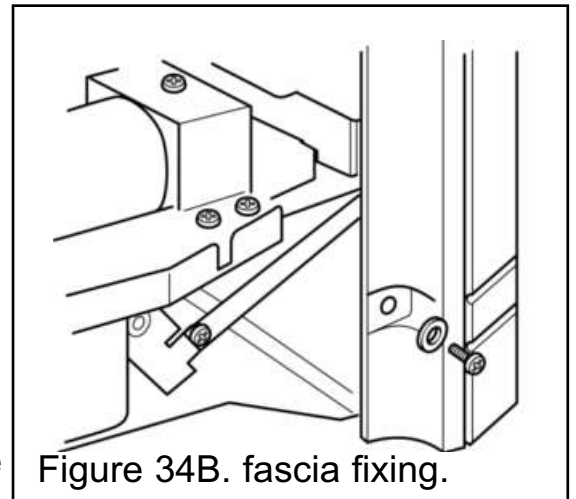

Figure 34B. fascia fixing.
**3.** Secure the bottom of the fascia using the two machine screws and washers supplied (See figure 34B).
3. Secure the bottom of the fascia using the two machine screws and washers supplied (See figure 34B).